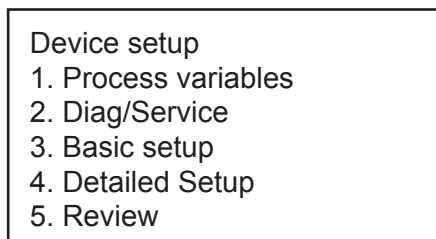

Figure 7-4 Device setup menu
1. Select “1. Device setup” from online menu 1 (Figure 7-4). The device setup menu will then be displayed. (Figure 7-4)